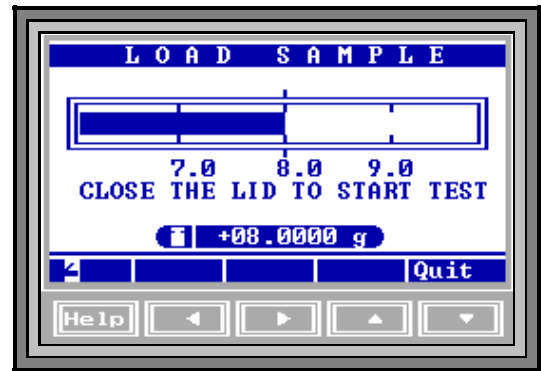

Figure 5 WEIGHT DISPLAY
- 3.6.3 While a test is in progress, the horizontal bar is not displayed. Only the weight in grams is displayed at the bottom center of the screen (shown as +08.0000 grams in **Figure 5**).